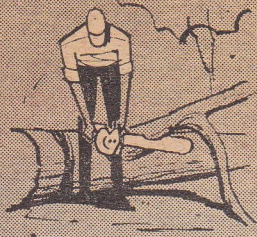

FIGURE 15
2. Undercuts should be used on limbs supported at both ends (Figure 15). Hold bumper tight against tree before chain contacts wood. Be sure you have prepared path of retreat and be ready to shut off power and pull saw out fast. When using top or nose of saw to cut, hold your hip or thigh against rear of engine to be prepared for any unexpected thrust.